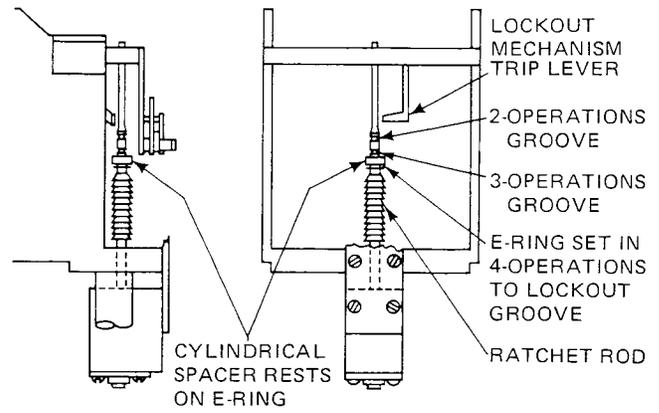

Figure 9
The number of operations to lockout (2, 3, or 4) is set on the upper portion of the ratchet rod (Figure 9) which is located above the intergrator housing on one end of the mechanism frame. Position of the cylindrical spacer on the ratchet rod, held in place by an "E" ring snapped into one of three grooves (shown in Figure 9 in the four operations to lockout setting) determines the number of trip operations to lockout.
2. Move the spacer to the groove required for the number of operations to lockout wanted (Figure 9).